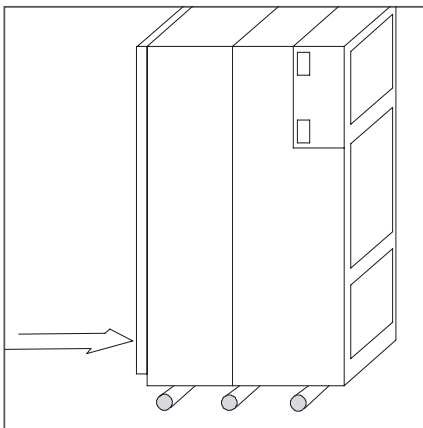

Fig. 5.3
- Push panel onto three cylindrical rollers (minimum diameter 30 mm) (Fig. 5.3).